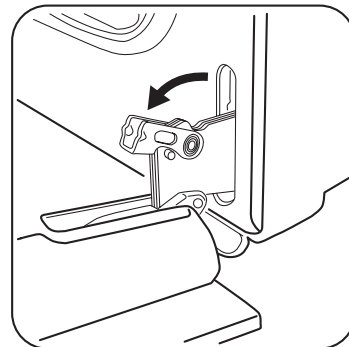

Figure 29: Door hinge locks
2. Lift and turn/pull the levers on both of the door hinge locks down from the oven frame completely towards the oven door (Figure 29). A tool such as a small flat-blade screwdriver may be required.
4. Lift and turn/push the levers on both of the door hinge locks up towards and into the oven frame to the locked position (Figure 29).